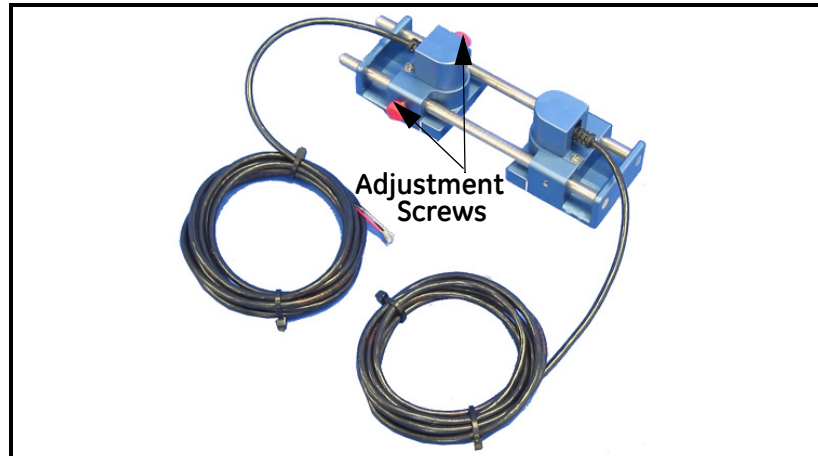

Figure 7: UTX878 Transducer/Cable Assembly
The transducers that have been specially designed for use with the UTX878 are available in two models: 4 MHz for 1/2 to 2 in. pipes and 2 MHz for 2 to 8 in., and typically support 2-traverse applications. The preattached cables come in lengths from 6 to 100 ft. (*figure 7* below shows a typical UTX878 transducer).
1. Loosen the red screws on the adjustable transducer (shown in *Figure 7* above).